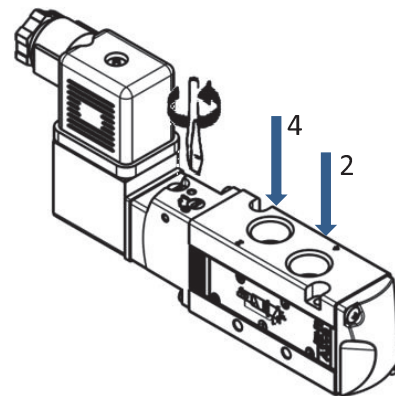

Fig. 2
• **Please refer to (Fig. 2):**
- **On the spool valves (Fig. 2)**